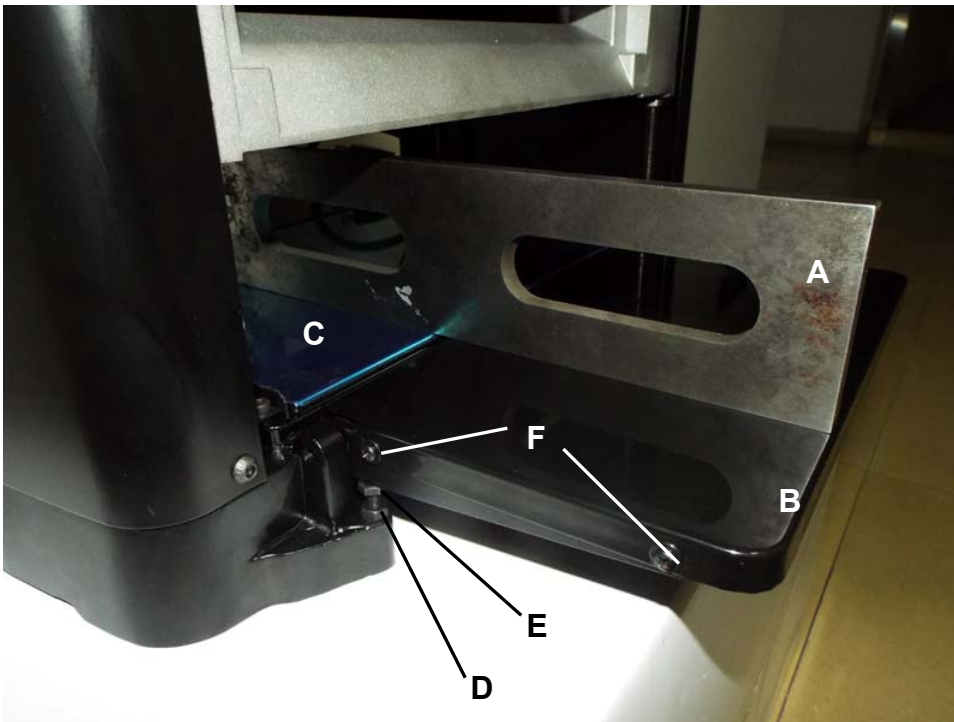

FIG 4
1. Lay a straight edge (A) on the planer table (C) with one end of the straight edge over the infeed table (B). SEE FIG 4.
3. If an adjustment is necessary, raise table, loosen lock nuts (D) and adjust Hex Head Screws (E) on each side of the table until the infeed table is level with the planer table. This will adjust the outer edge of the table. If necessary, loosen the two screws of one side of infeed table (F), after adjusting, then retighten the screws back. Adjust another side of infeed table in the same manner.